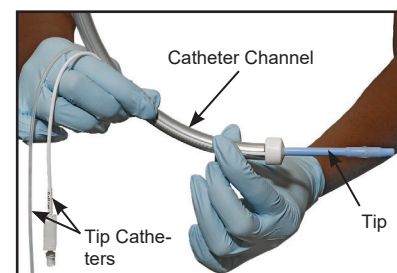
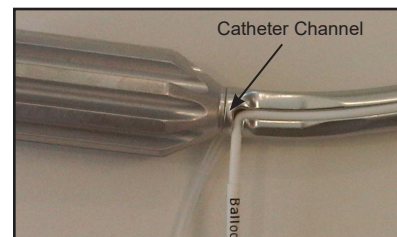

Figure 1
Figure 2
2. Ensure the Tip catheters are secure in the catheter channels of the Handle (see Figure 1 and Figure 2).